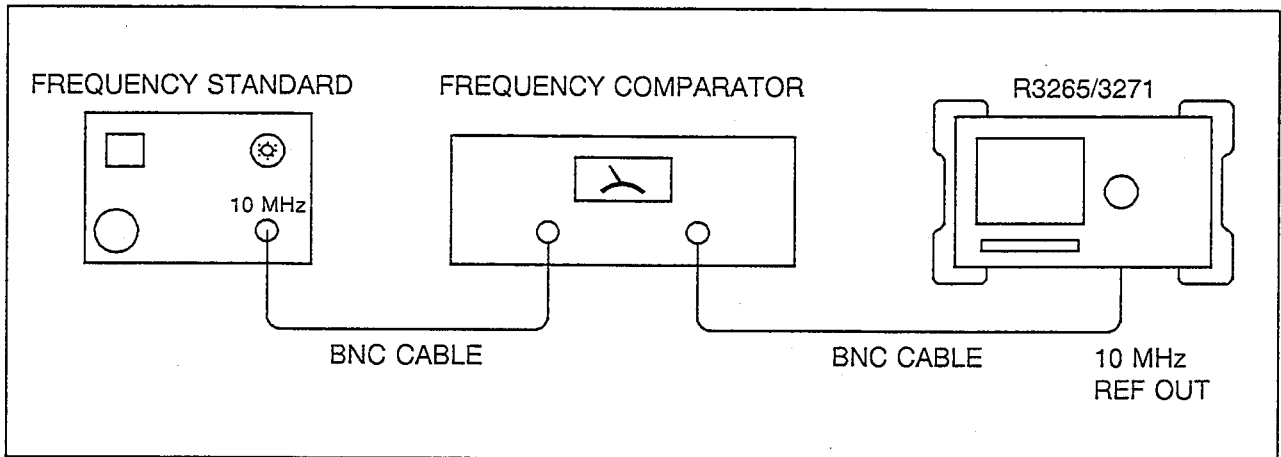

Figure 5-14 10 MHz Frequency Reference Adjustment Setup
- (1) Connect the equipment as shown in Figure 5-14.
- (2) Set the 10MHz REF of the R3265/3271 to INT.